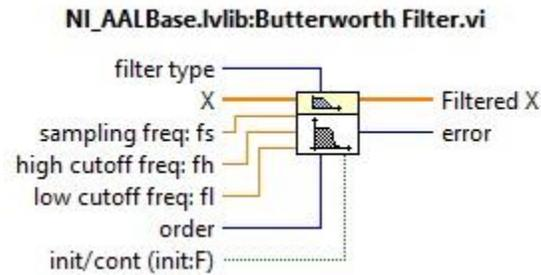

Figure 19: Butterworth Filter Icon
- Use a **Butterworth** filter (Functions > Signal Processing > Filters > Butterworth Filter) as the LPF. Right click on the filter icon and enable **All Constants** from the **Create** menu and set up the filter as a second-order Low Pass filter with a low cutoff frequency of 5 kHz. As was the case for the BPF, the sampling frequency input should be the actual IQ rate obtained from the Configure Signal.vi (Outside of the while loop). The output of the Butterworth LPF should be connected to the **Build Waveform** block provided in the template that feed the **Base Band Output** graph. Figure 19 shows the Butterworth filter.